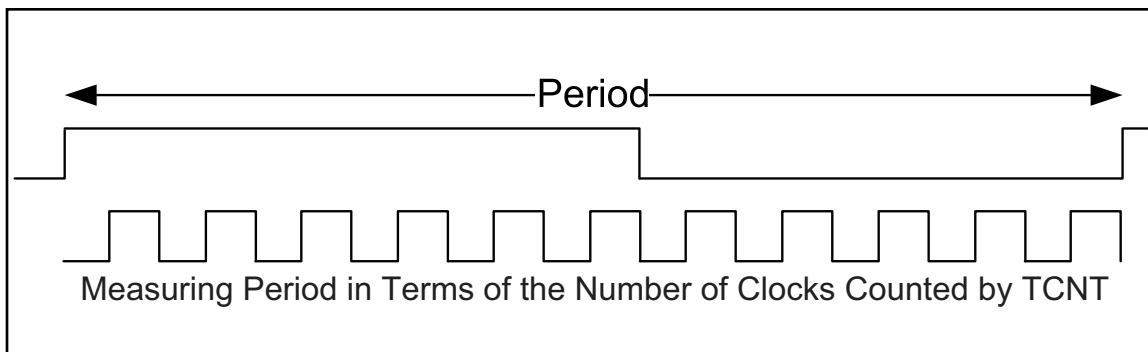

**Figure 20. Using Input Capture to Measure Period**
6. Save the ICR1 for the second edge. By subtracting the second edge value from the first edge value we get the time. See Examples 23 and 24. Also see Figure 20.